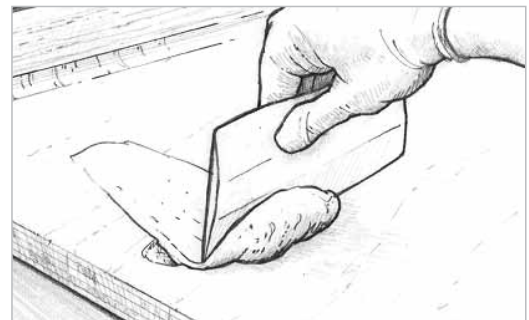

Figure 9-15 Trowel the thickened epoxy fairing compound into the voids and depressions with a plastic spreader.
4. Trowel on the thickened epoxy mixture with a plastic spreader, working it into all voids and depressions. Smooth the mixture to the desired shape, leaving the mixture slightly higher than the surrounding area (*Figure 9-15*). Remove any excess thickened epoxy before it cures. If the voids you are filling are over ½" deep, apply the mixture in several applications or use 206 Slow Hardener or 209 Extra Slow Hardener, depending on ambient temperature.